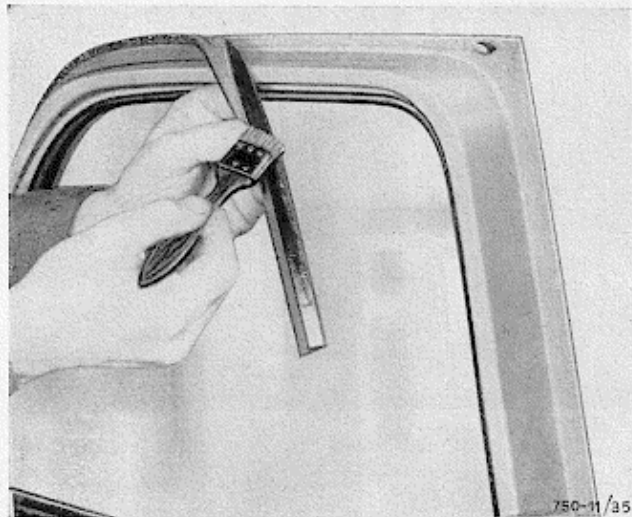

Fig. 34 - Glueing the rubber door seal in position
- remove the split pin from the door-opening top rod and withdraw the two pegs from the hinges (Fig. 34).
When refitting a new rubber seal, first clean the rubber and the door with petrol and then smear both the rubber and the door edge with suitable glue (Fig. 34). Allow the glue three or four minutes to become tacky and then press the rubber surround in place.